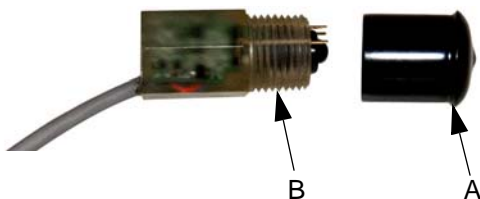

FIG. 2. Sensor and Cap
The sensors are mounted on the pump to detect liquid on the air side of the diaphragm. See FIG. 1, FIG. 2, and FIG. 3.
3. See FIG. 2. Remove the sensor caps (A). Screw the sensors (B) into the pump. Use thread sealant, as needed. See FIG. 3.